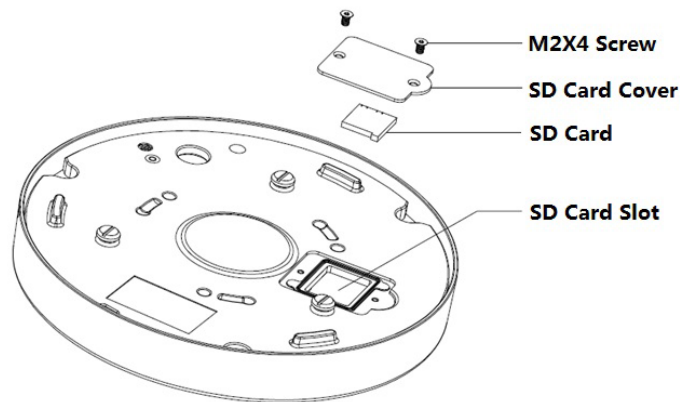

Figure 3-4
- 1) Find Micro SD card slot in the location shown in Figure 3-4, use a Philips screwdriver to remove the two screws on the cover of the Micro SD card.
- Step 7** Install waterproof connector for the network port (optional), which is shown in Figure 3-4.